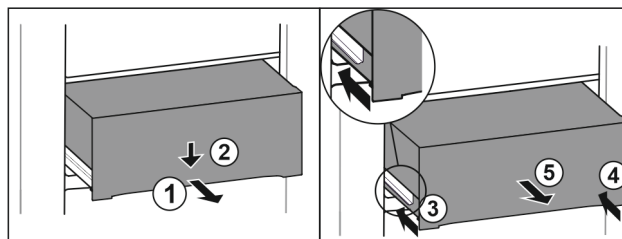

Fig. 131
- ▶ Pull out the drawer halfway. Fig. 131 (1)
- ▶ Press down the drawer on the front. Fig. 131 (2)
- ▶ Push in the left rail approximately 2 cm. Fig. 131 (3)
- ▶ Push in the right rail approximately 2 cm. Fig. 131 (4)
- ▶ Remove drawer to the front. Fig. 131 (5)